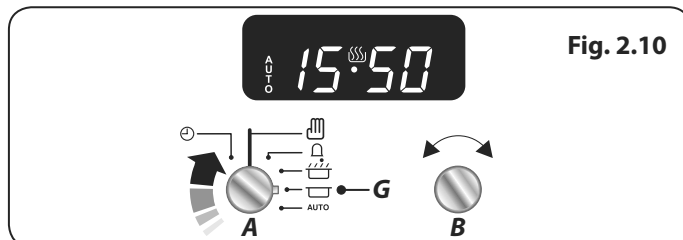

Fig. 2.10
2. Turn the **Timer (A)** knob to the **Stop Time (G)** setting (**Fig. 2.10**). The display will show the current time of day plus the 'cook time' you just set.